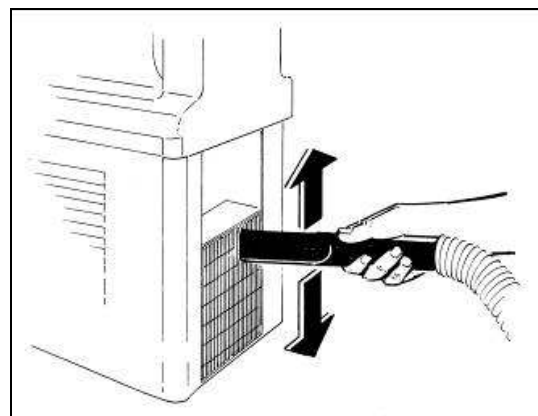

Fig. 30
- Using a dust exhauster, remove the dust that has collected between the condenser fins (fig.30).